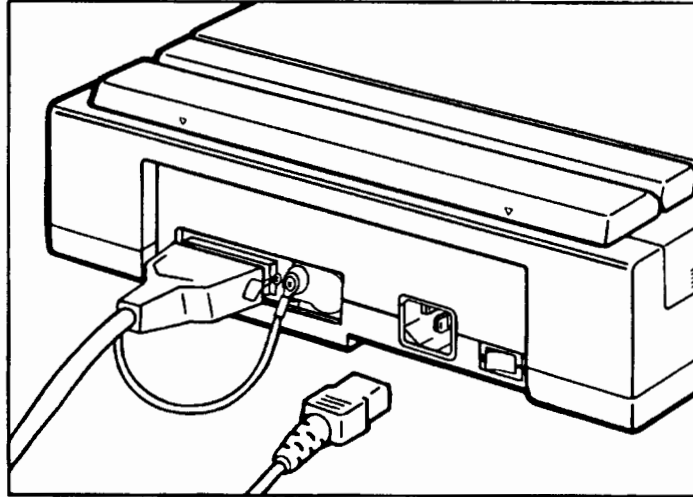

Figure 2-9. Connecting the Power Cord to the Scanner.
1. Attach the power cord to the scanner. See figure 2-9.